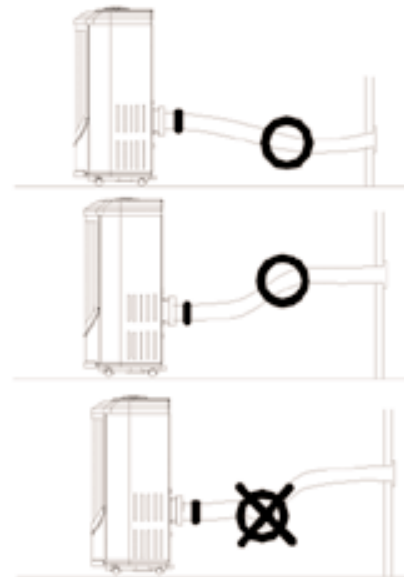

Figure 10
- Take care to prevent any kind of bend in the middle of the exhaust hose, as this will trap hot exhaust air, which will radiate back into the room and affect the cooling function of the unit (Fig. 10).